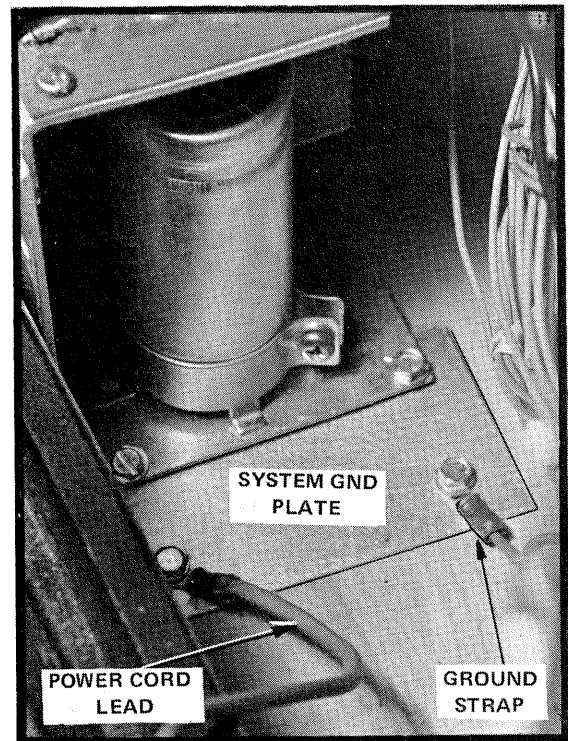

FIGURE 7-11 Grounding Plate installation completed.
Slip the System Grounding Plate (PN 100-02B013-1) under the RIGHT end of the Power Supply and align the pair of holes on the LEFT side of the Grounding Plate with the mounting holes of the Power Supply chassis. See FIGURE 7-11.
Get the two (2) Grounding Strap (GRN) Wires and pass a #8 x 3/4" Hex Washer Hd. Screw through their lugs and mount the Grounding Straps to the System Grounding Plate at the hole toward the back of the Piano. See FIGURE 7-11 above.
Pass the remaining #8 x 3/4" Hex Washer Hd. Screw through the Lug on the GREEN lead from the Power Cord, then mount the Power Cord lead to the System Grounding Plate at the hole toward the front of the piano. See FIGURE 7-11 above.